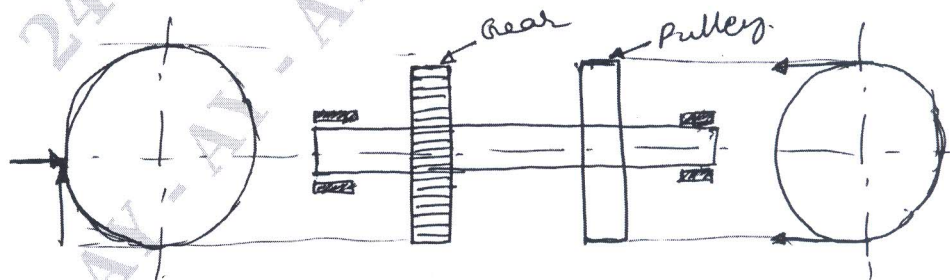

Fig.Q6
- 6 A uniform circular carbon steel shaft made of SAE 1025 annealed is mounted on two bearings 850 mm apart as shown in the Fig.Q6. The shaft carries a gear A at 200 mm to the right of the left bearing and a pulley B at 250 mm to the left of the right bearing. The gear is subjected to horizontal pressure of 3500 N and a vertical upward pressure of 9600 N. The pulley is driven by a belt with a tension on tight side to be 6000 N and on the slack side to be 2000 N. The shock and fatigue factors for bending and torsion as $K_m = 2$ and $K_t = 1.5$ respectively and weight of the pulley to be 1500 N. Design the diameter of the shaft for yield stress taking factor of safety as 3. Draw neatly the sketch with loading and bending moment diagrams.